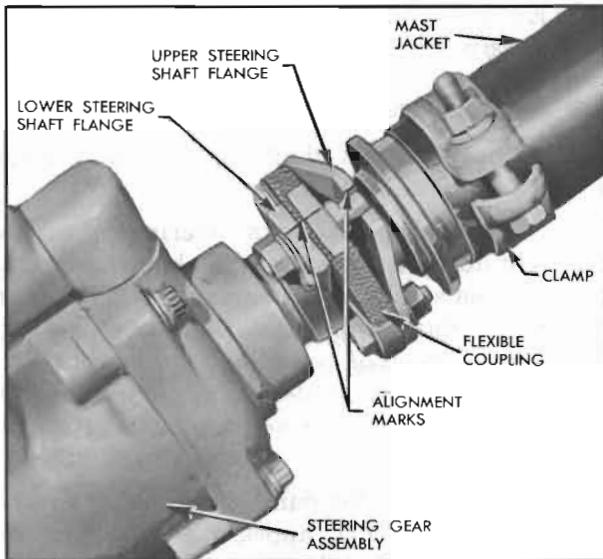

Figure 8-16—Marking Flexible Coupling
3. Mark upper and lower steering shaft flanges for correct assembly. Then disconnect the flexible coupling. See figure 8-16.